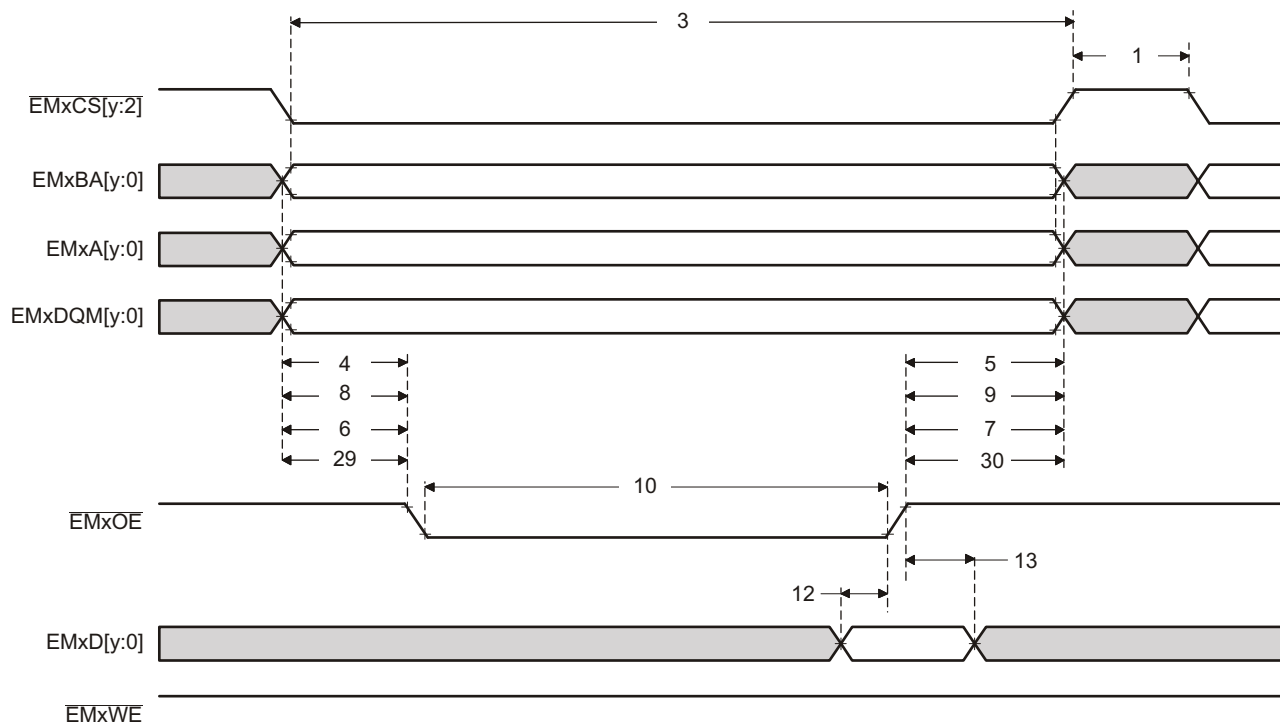
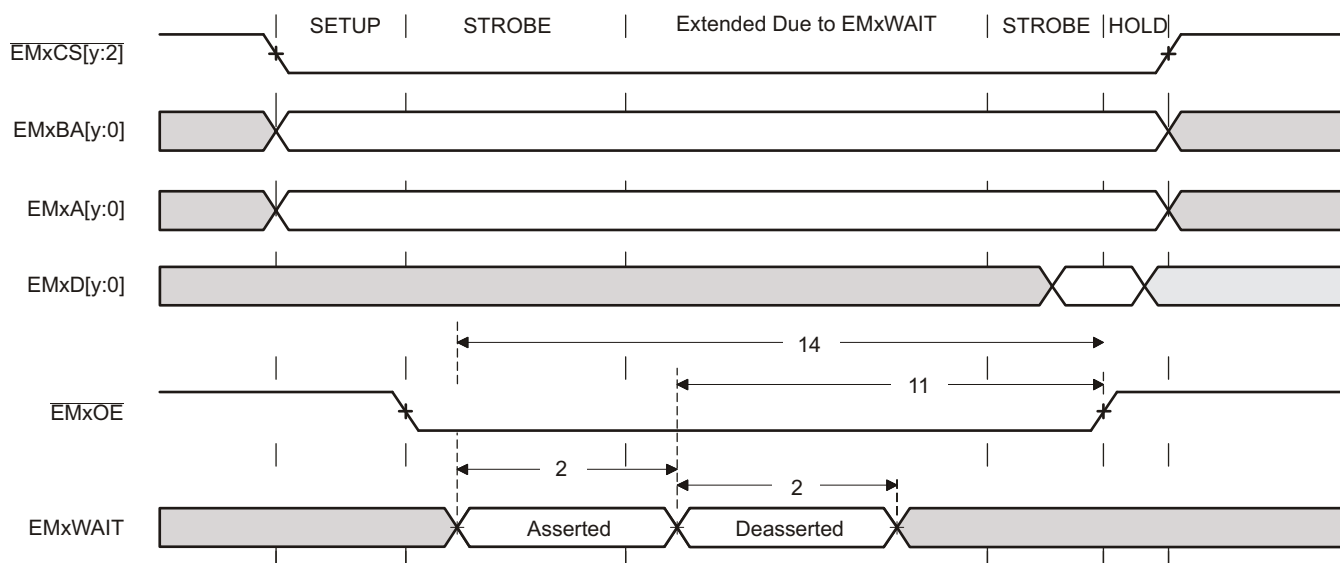
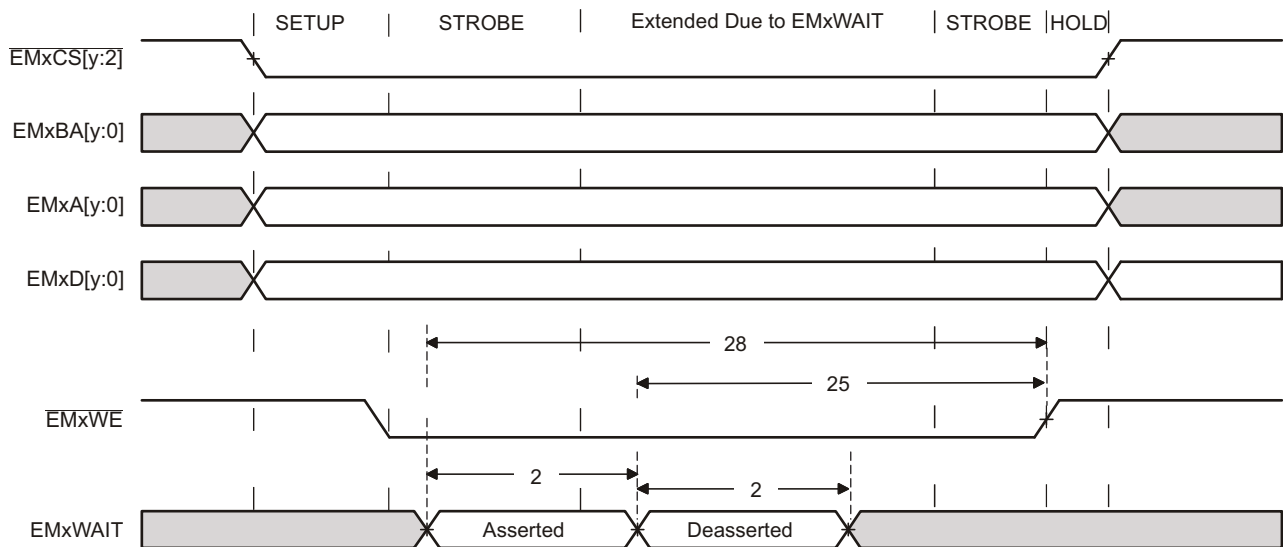

Figure 5-21. Asynchronous Memory Read Timing
Figure 5-22. EMxWAIT Read Timing Requirements
**Figure 5-24. EMxWAIT Write Timing Requirements**
Table 5-38 shows the EMIF asynchronous memory timing requirements. Table 5-39 shows the EMIF asynchronous memory switching characteristics. Figure 5-21 through Figure 5-24 show the EMIF asynchronous memory timing diagrams.
(1) E = EMxCLK period in ns.
(2) Setup before end of STROBE phase (if no extended wait states are inserted) by which EMxWAIT must be asserted to add extended wait states. Figure 5-22 and Figure 5-24 describe EMIF transactions that include extended wait states inserted during the STROBE phase. However, cycles inserted as part of this extended wait period should not be counted; the 4E requirement is to the start of where the HOLD phase would begin if there were no extended wait cycles.